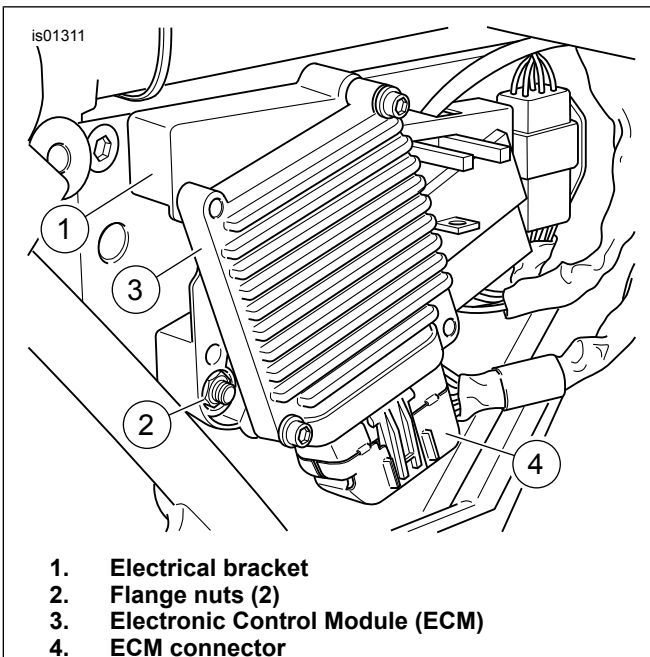

Figure 10. Electrical Bracket (2002-2007 FL Touring Models)
2. See Figure 10. Remove the two flange nuts (2) from the electrical bracket (1). Pull the bracket assembly, with the Electronic Control Module (ECM) and connector attached, away from the side of the battery box.